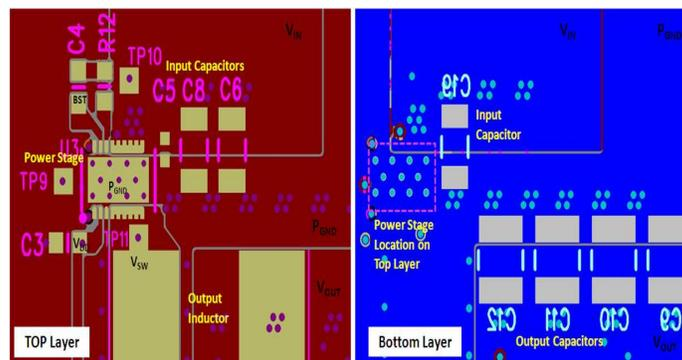

Figure 16. Recommended PCB Layout (Top-Down View)
- The placement of the input capacitors relative to  $V_{IN}$  and  $P_{GND}$  pins of the CSD95377Q4M device should have the highest priority during the component placement routine. It is critical to minimize these node lengths. As such, ceramic input capacitors need to be placed as close as possible to the  $V_{IN}$  and  $P_{GND}$  pins (see Figure 16). The example in Figure 16 uses 1 × 1-nF 0402, 25-V and 3 × 10-μF 1206, 25-V ceramic capacitors (TDK part number C3216X5R1C106KT or equivalent). Notice there are ceramic capacitors on both sides of the board with an appropriate amount of vias interconnecting both layers. In terms of priority of placement next to the power stage C5, C8, C6, and C19 should follow in order.
- Use the smallest drill size allowed in your design. The example in Figure 16 uses vias with a 10-mil drill hole and a 16-mil capture pad.